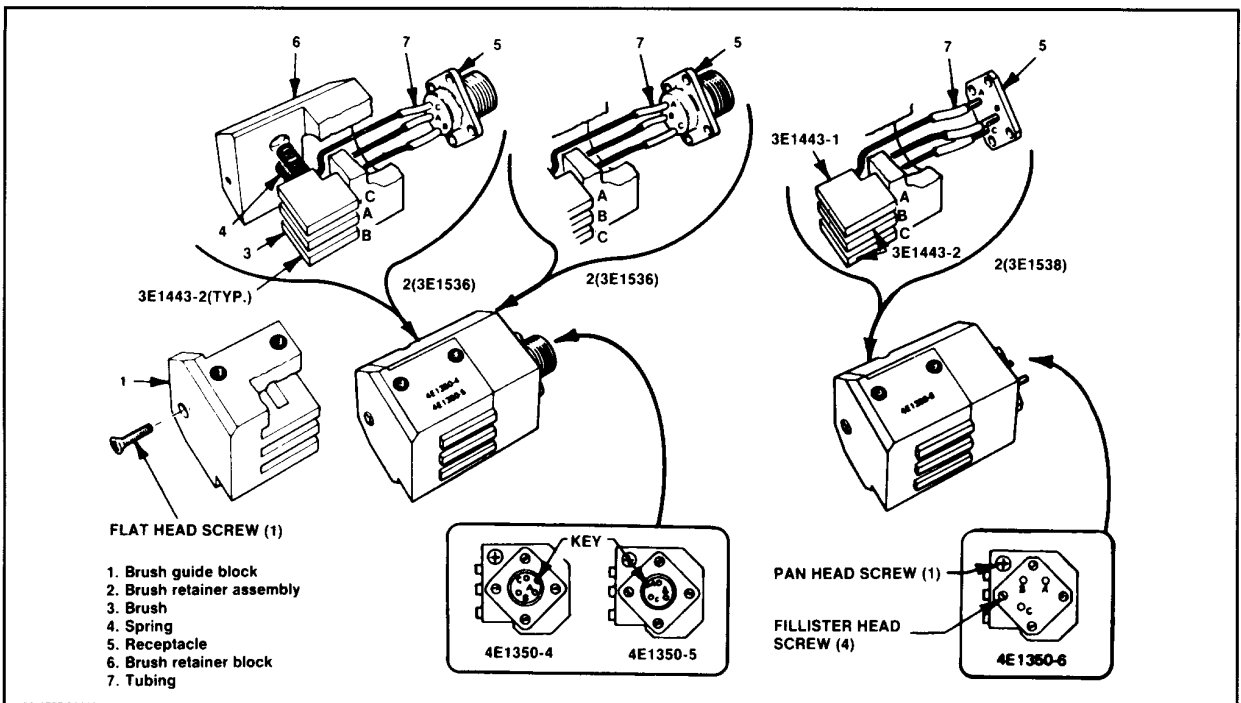

Figure 33 - 4E1350-4,-5,-6 Brush Block Assemblies
I. Brush Block Assemblies 4E1350-4, -5 & -6 (Figure 33)